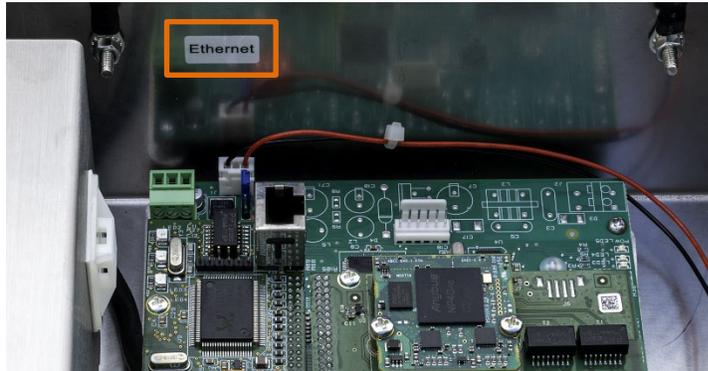

Figure 3-17: Ethernet Label Position
- If installing the Ethernet option, an Ethernet identification label is provided in the kit. This label can be adhered to the ACM500 enclosure near the Ethernet connector, as shown in Figure 3-17.
- If installing the EtherNet/IP option, an EtherNet/IP PLC label is provided for convenience in the kit. The label can be applied to the ACM500 enclosure near the EtherNet/IP connector, as shown in Figure 3-17.